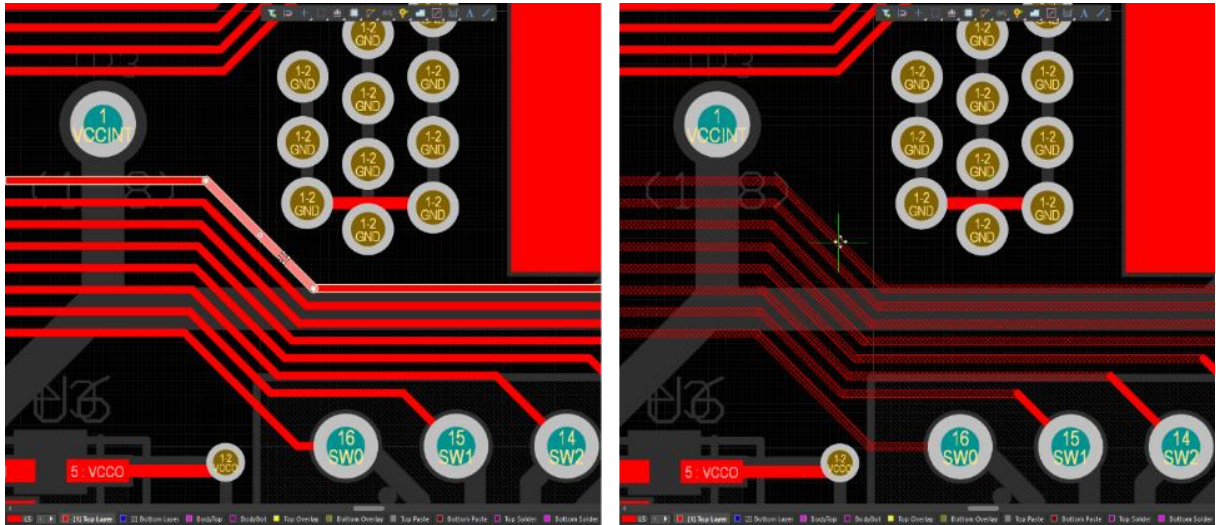

Figure 10. Use the sliding segment to push other segments
14. Alternatively, to slide multiple track segments you can simply slide one and use it to push other segments. To slide all of the diagonal segments, click once to select SW7, as shown in Figure 10 below.